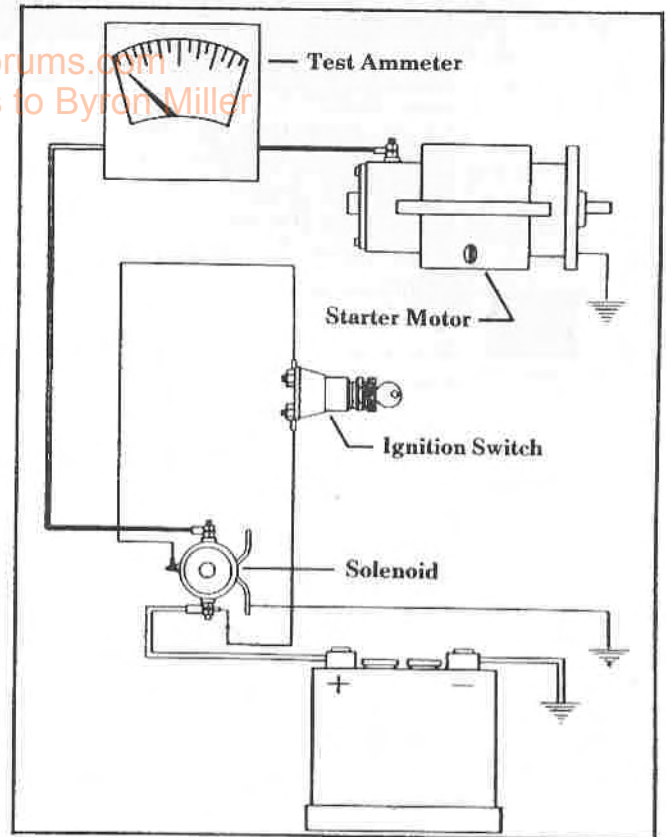

Fig. 2
1. Ground spark plug high tension leads so that engine can be cranked without firing. Place clamp-on ammeter capable of reading at least 200 amperes against starter motor lead (Figure 2).